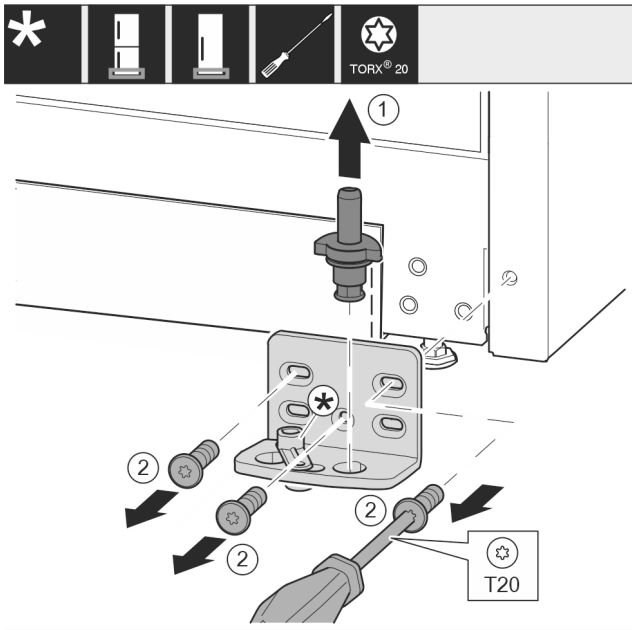

Fig. 27
- ▶ Pull the bearing bolt Fig. 27 (1) out upwards completely.
- ▶ Use screwdriver to unscrew the screws Fig. 27 (2) and remove the swap bearing block.